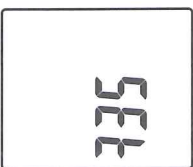

Fig.7
- (1) Turn off the unit.
- (2) Enter SETUP mode by pressing and holding MIN MAX button and then press F.O.I. power button to turn on the unit. "SET" blinks on the LCD screen. (see Fig.7)
- (3) Press CLOCK (REC) button to set clock.